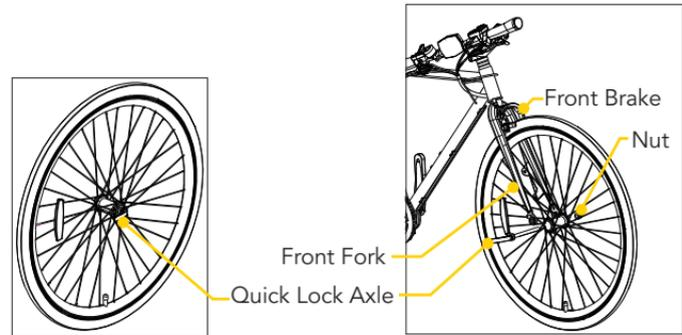

Fig. 1
- Step 1.** Have someone hold the front wheel upright on the floor. If needed, slightly loosen the quick lock on the center of the wheel (Fig.1).
- Step 2.** Pick up the eBike and line up the fork with the quick lock axle at the center of the wheel, making sure the spacer is between the fork and wheel on each side, then fit the two together (Fig. 1).